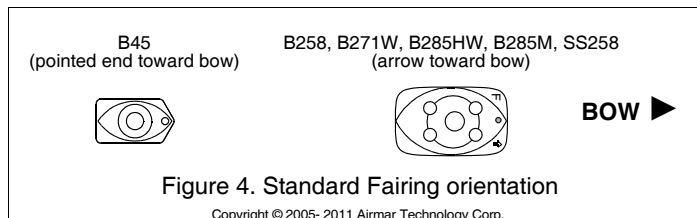

Figure 4. Standard Fairing orientation
3. Place the fairing on the table, so the cutting guide rests against the fence. The arrow/pointed end will be pointing *toward* you for installation on the starboard side of the boat or *away* from you for installation on the port side (Figure 4).
facing forward toward the bow. The long side must be parallel to the centerline of the boat (Figure 4).
2. From inside the hull, slide the backing block (if installing with a fairing) and the hull nut onto the cable. Seat any backing block against the hull, being sure the arrow end faces forward toward the bow. Screw the hull nut in place and tighten it with slip-joint pliers (Figures 4 and 5).